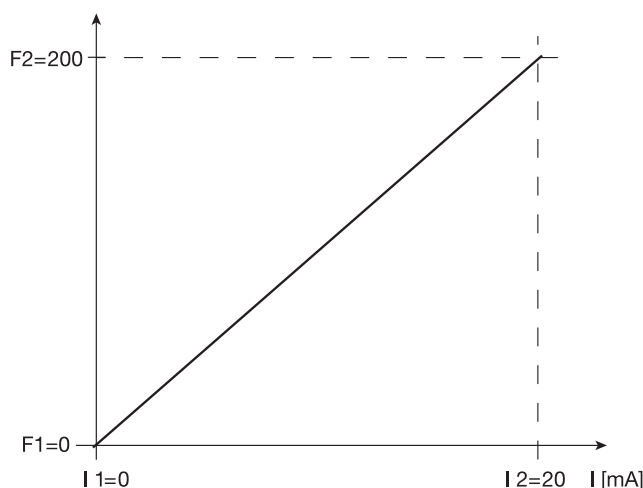

Fig. 21: How the straight line for “Concentration input” in the mode “Analog” has to look like
- ▶ Set $I_1 = 0\text{mA}$ and for $F_1 = 0$ strokes/min because the straight line has to pass through zero (0/0) (see Fig. 21).